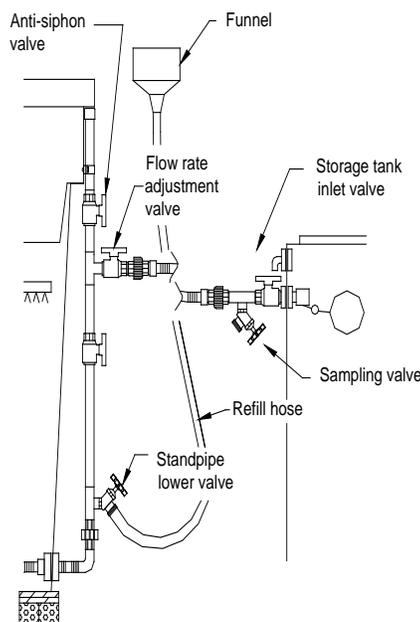

Figure 12-1
Step 1. Attach the refill hose to the lower valve on the filter standpipe. Insert a funnel into the end of the hose and hold it above the filter. Pour water into the funnel, allowing water to fill the filter from the bottom (figure 12-1).